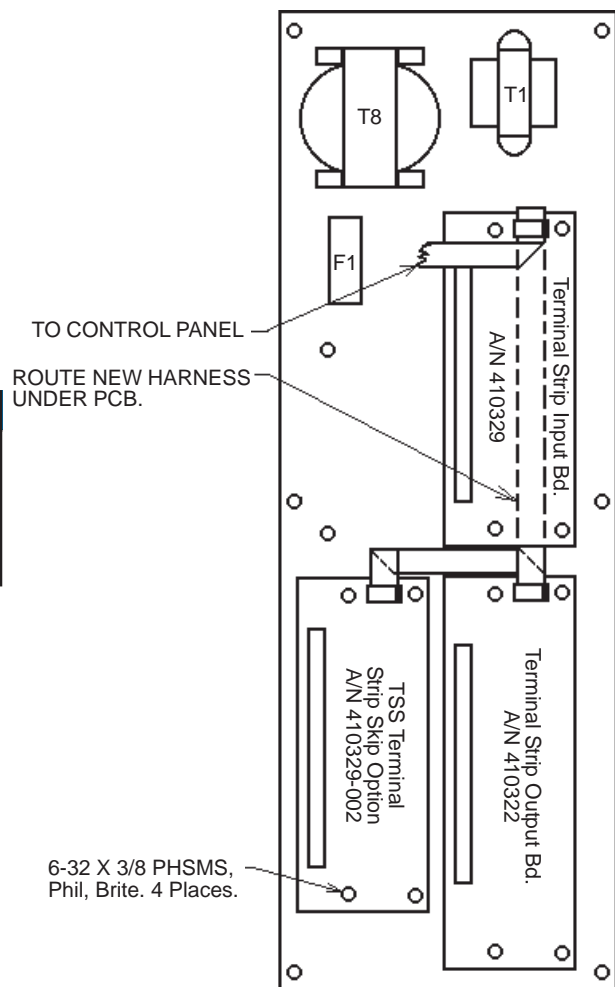

Figure 4. Mounting detail for Flat Plate Cascade
3. Mount External Terminal Strip Skip PCB (A/N 410329-002) to existing spacers using four (4) 6-32 x 3/8 PHSMS, Phil., Brite. See Figure 4.